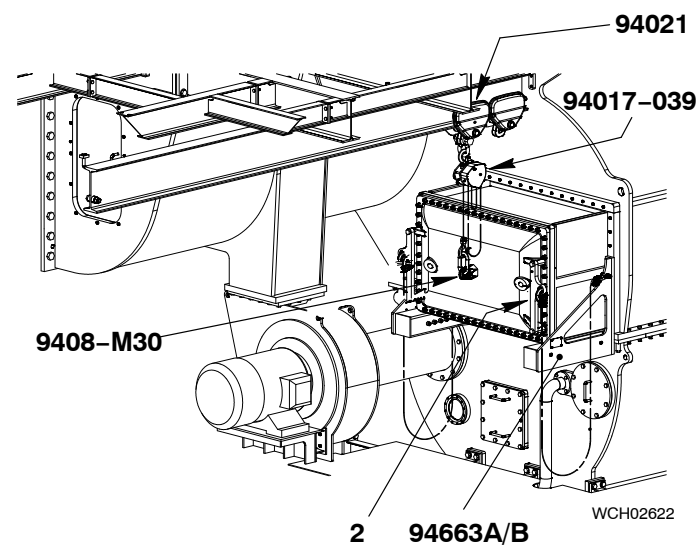

Fig. 10
- 9) Make sure that the end of the SAC (1) is on the two supports (94663A, 94663B).
- 10) Attach the safety lugs (94663C) and safety chains (94663D) to the SAC (1).
- 13) Operate the manual ratchet (94016 011) to move the SAC (1) to the position as shown in Fig. 10.
- 16) Remove the safety lugs (94663C) from the rollers (2).
- 17) Remove the rollers (2) from the from the SAC.
- 18) Attach the rollers (2) to their stowage position on the two supports (94663A, 94663B).